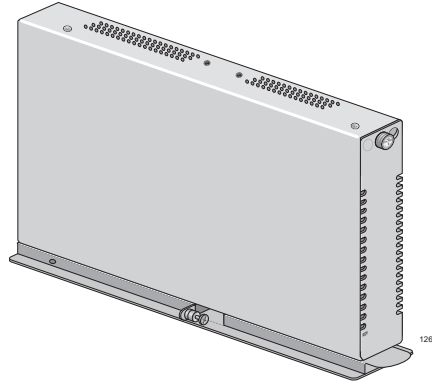

Figure 13. CV1000 Chassis with CVMCR Adapter Installed
4. Turn the chassis over, as shown Figure 13.